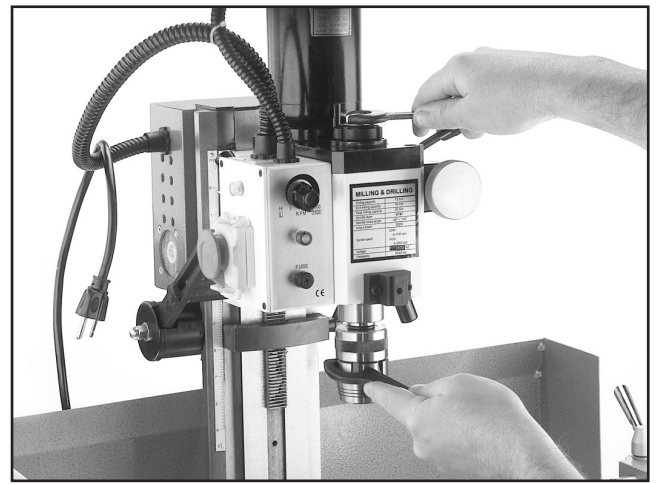

Figure 12. Installing optional collet chuck.
10. Hold the collet chuck in place with the spanner wrench and tighten the hex nut on the draw bolt just enough to snug it in place. See **Figure 12**. **DONOT** tighten the hex nut too tight or the collet chuck will be hard to remove from the spindle taper.